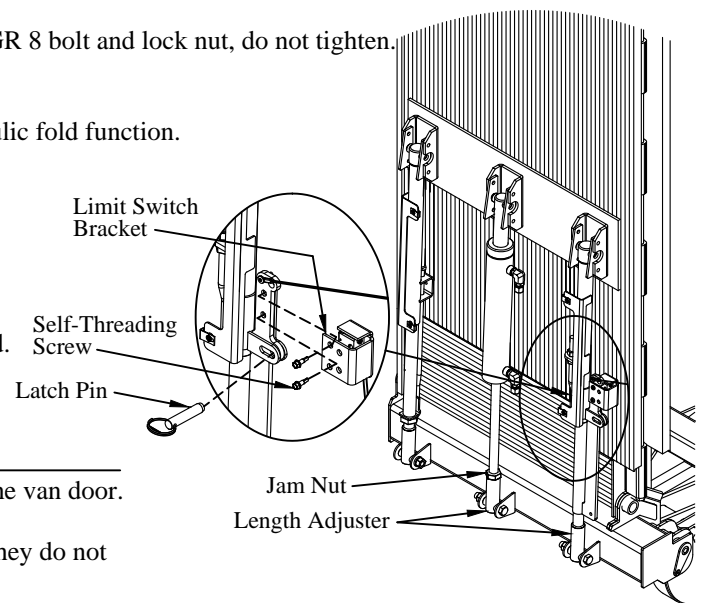

Figure 18: Platform latch and adjustment.
- 4. Install** the limit switch bracket on the passenger side support arm with two (2) #12 self-threading screws. See Figure 18 for bracket shipping location.
Make sure that the limit switch is not in the pushed position (Figure 18).
- 3. Support** the platform to keep it from falling or hitting the van in the next steps (Figure 18).